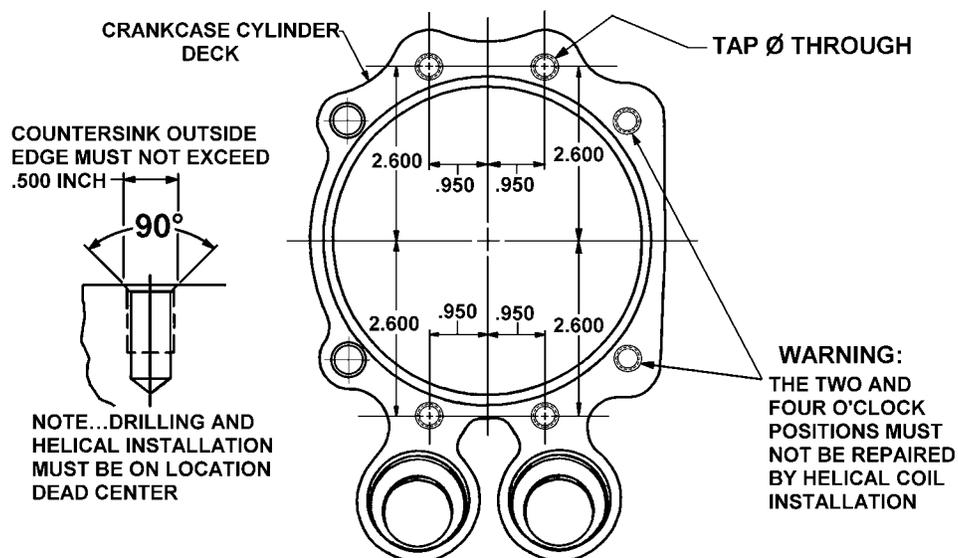

FIGURE 17-6. CRANKCASE CYLINDER DECK HELICAL COIL INSTALLATION
2. Installation of crankcase cylinder deck helical coils must be accomplished in accordance with the specifications in Figure 17-6 and the instructions in Section 5-21, "Helical Coil Insert Replacement."